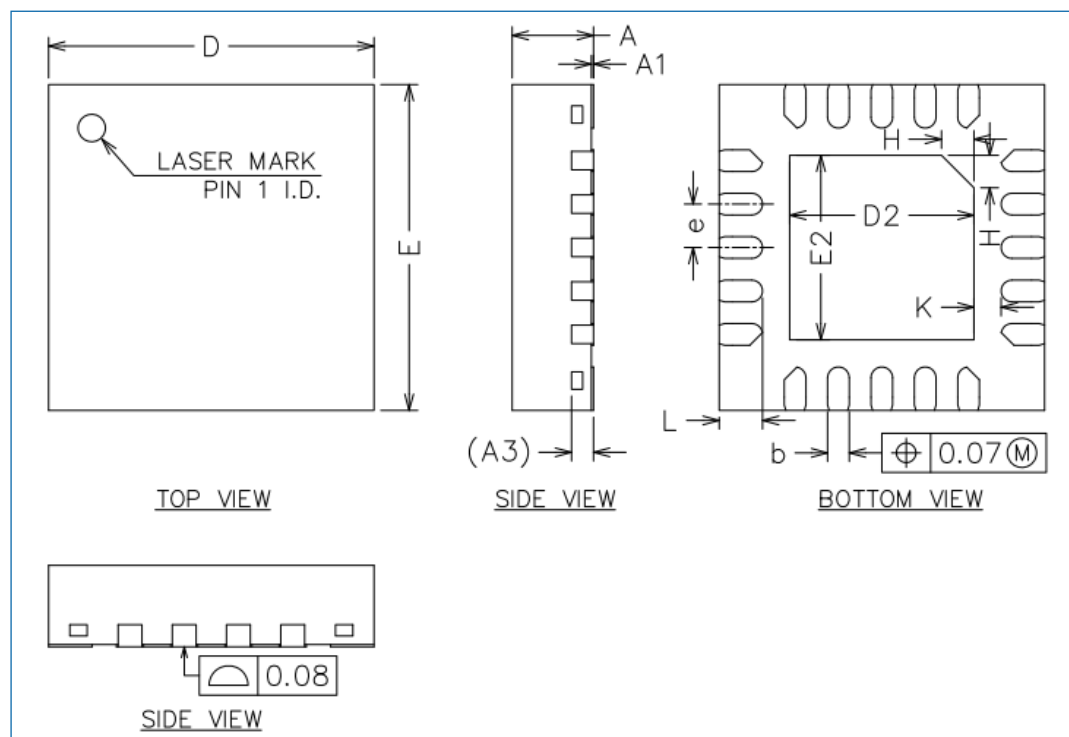

Figure 7-4 QFN20 package 1 outline
- 3 mm × 3 mm, 0.4 mm pitch (0.75 mm thick) package (as shown in Figure 7-4): HK32C003F4N6